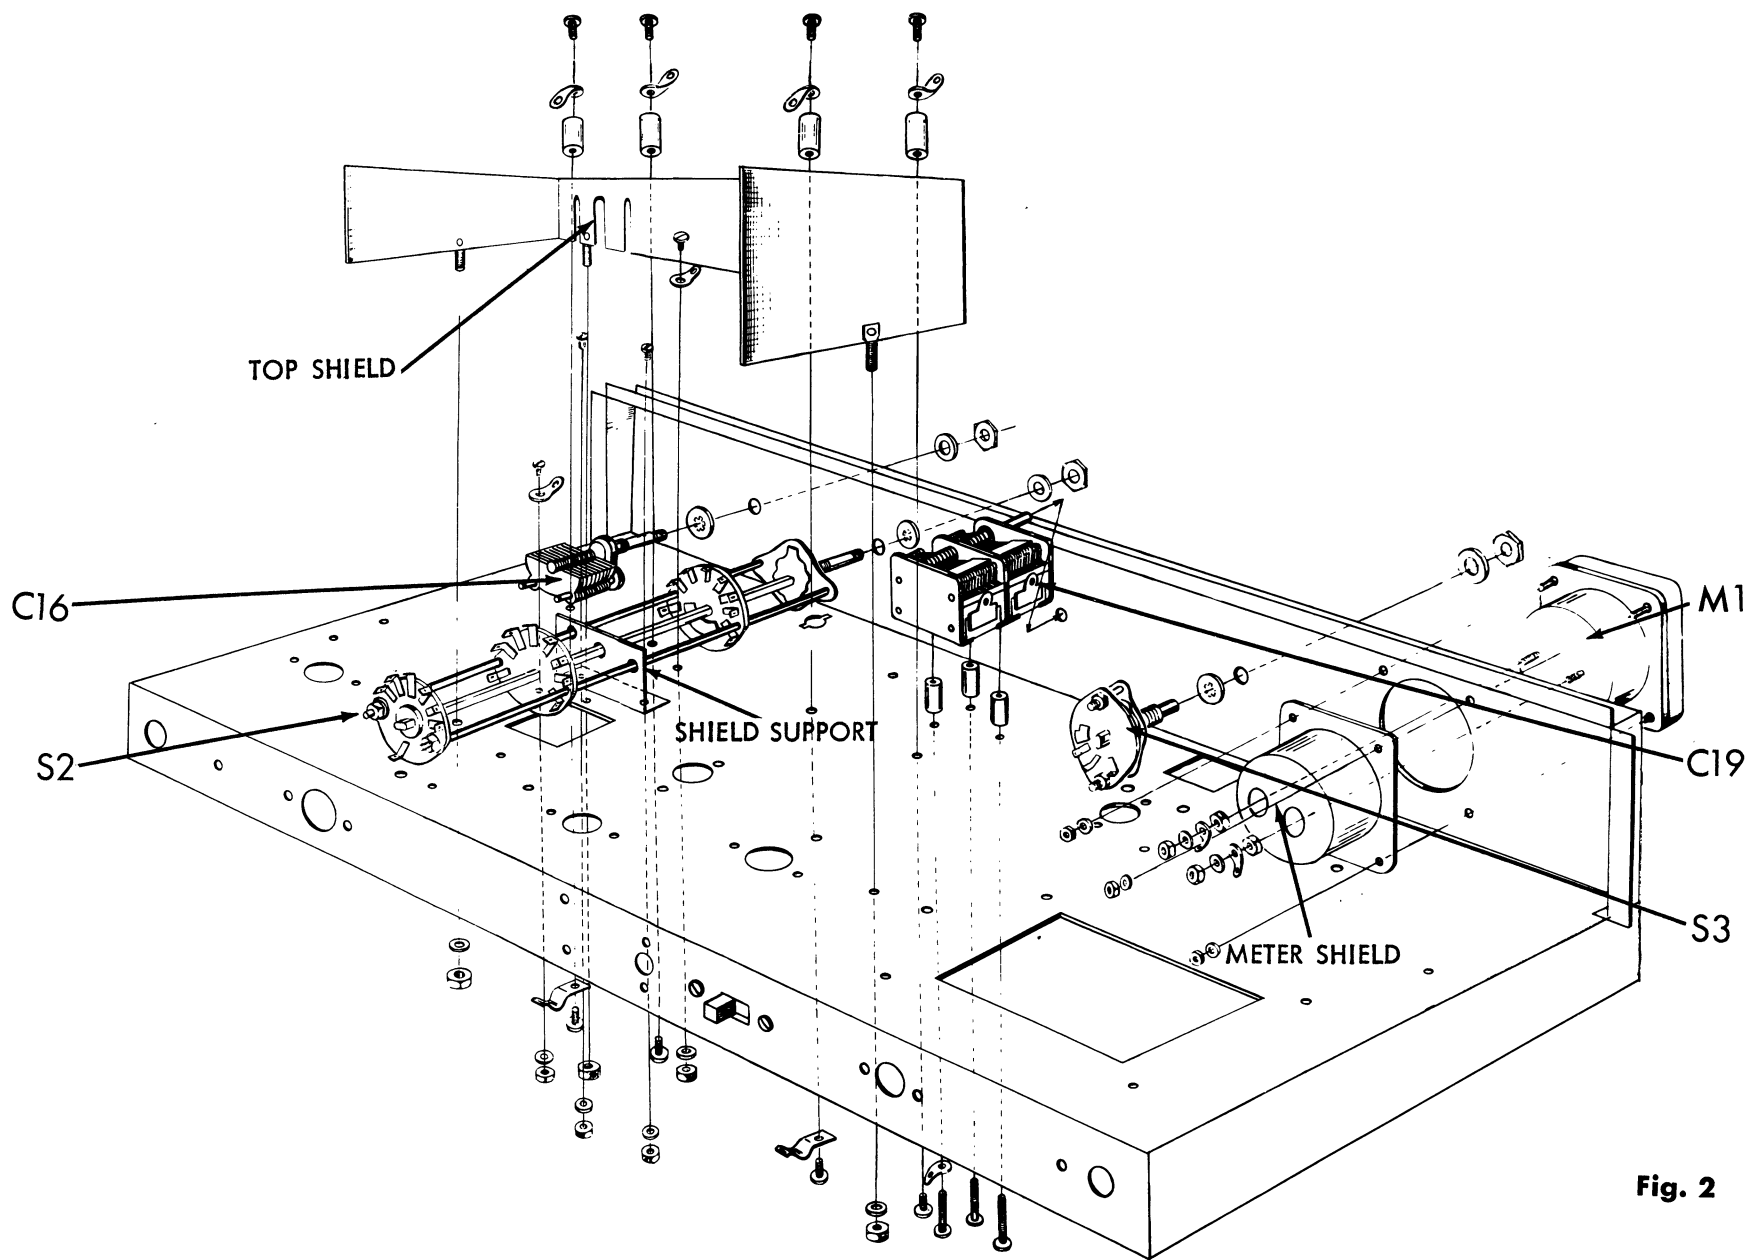
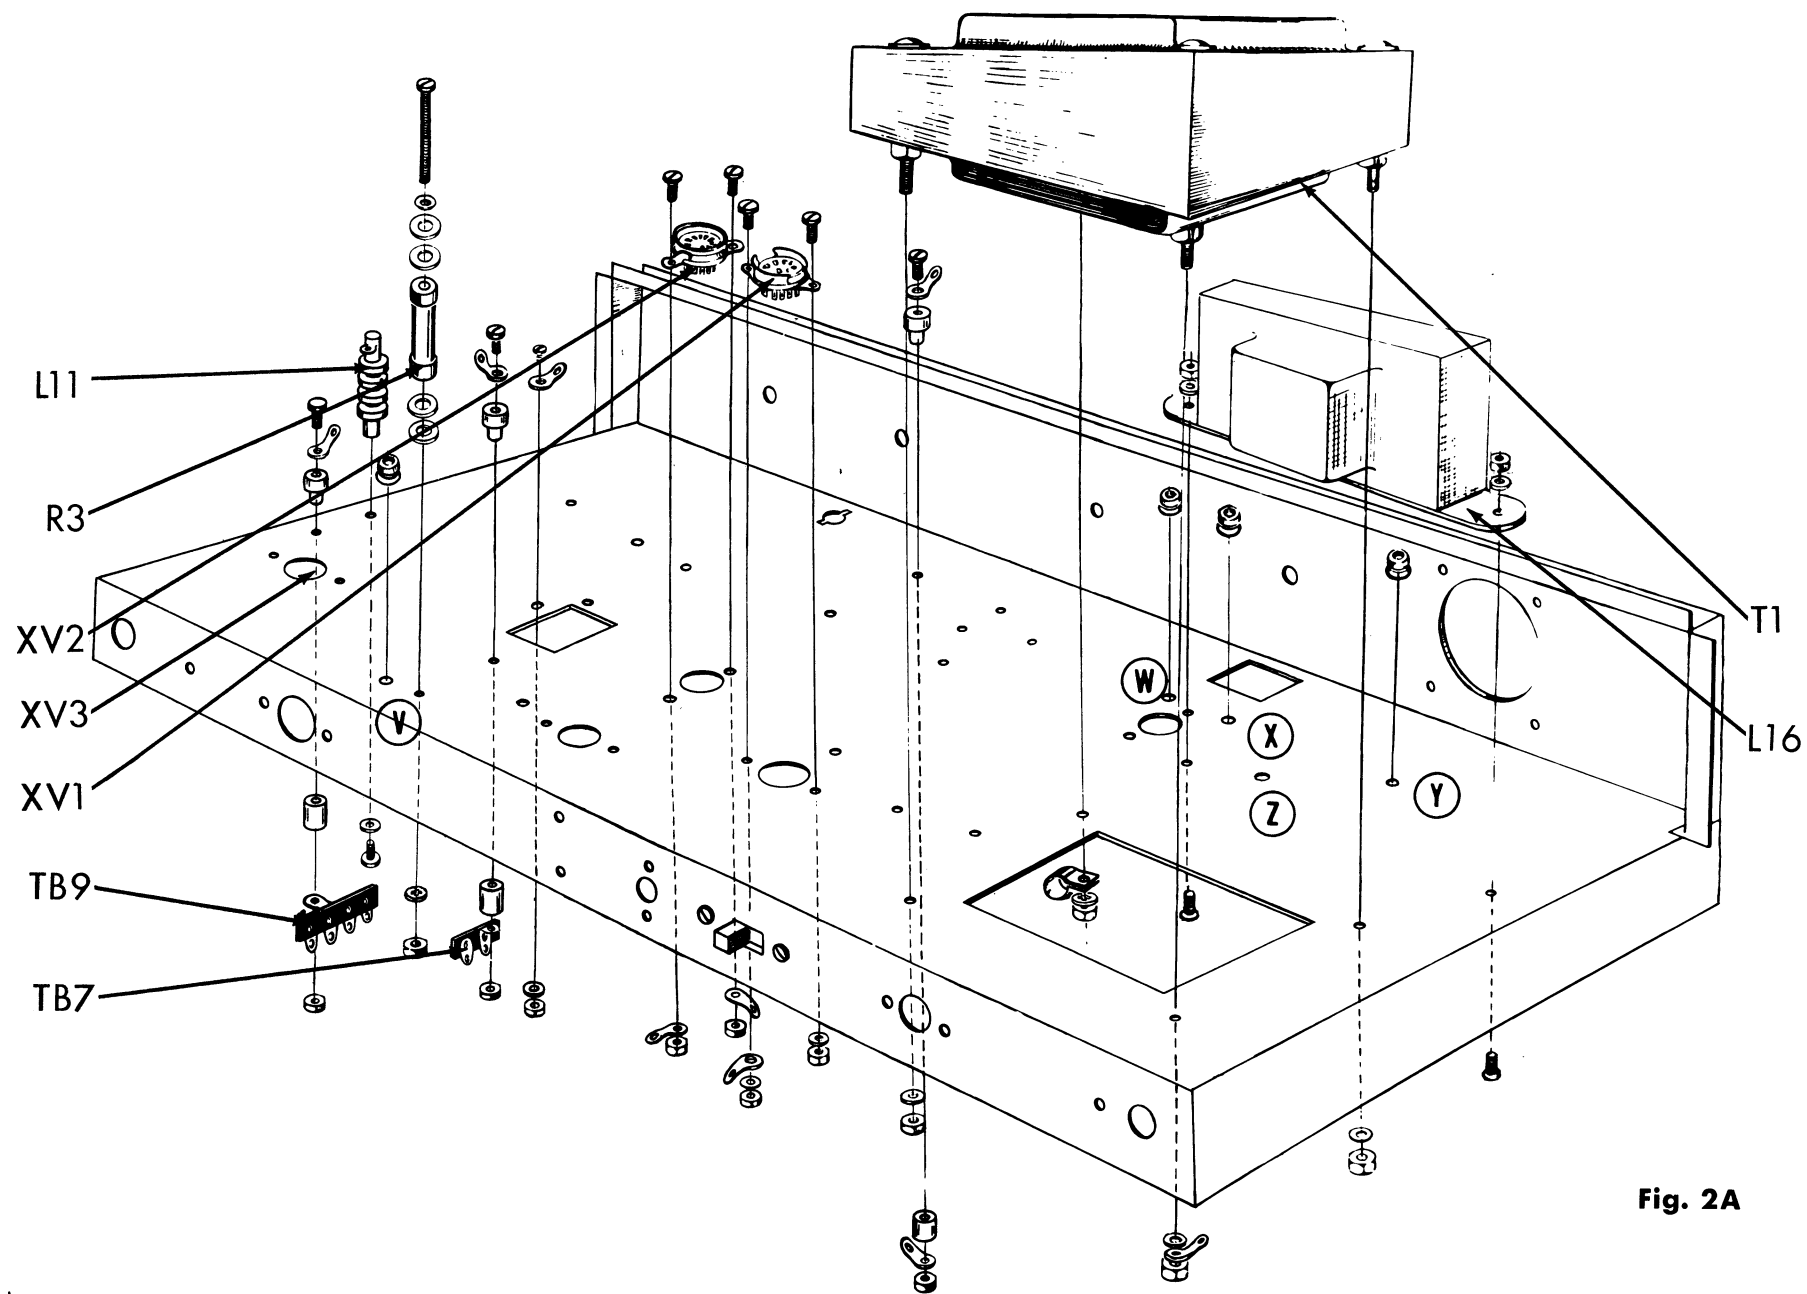
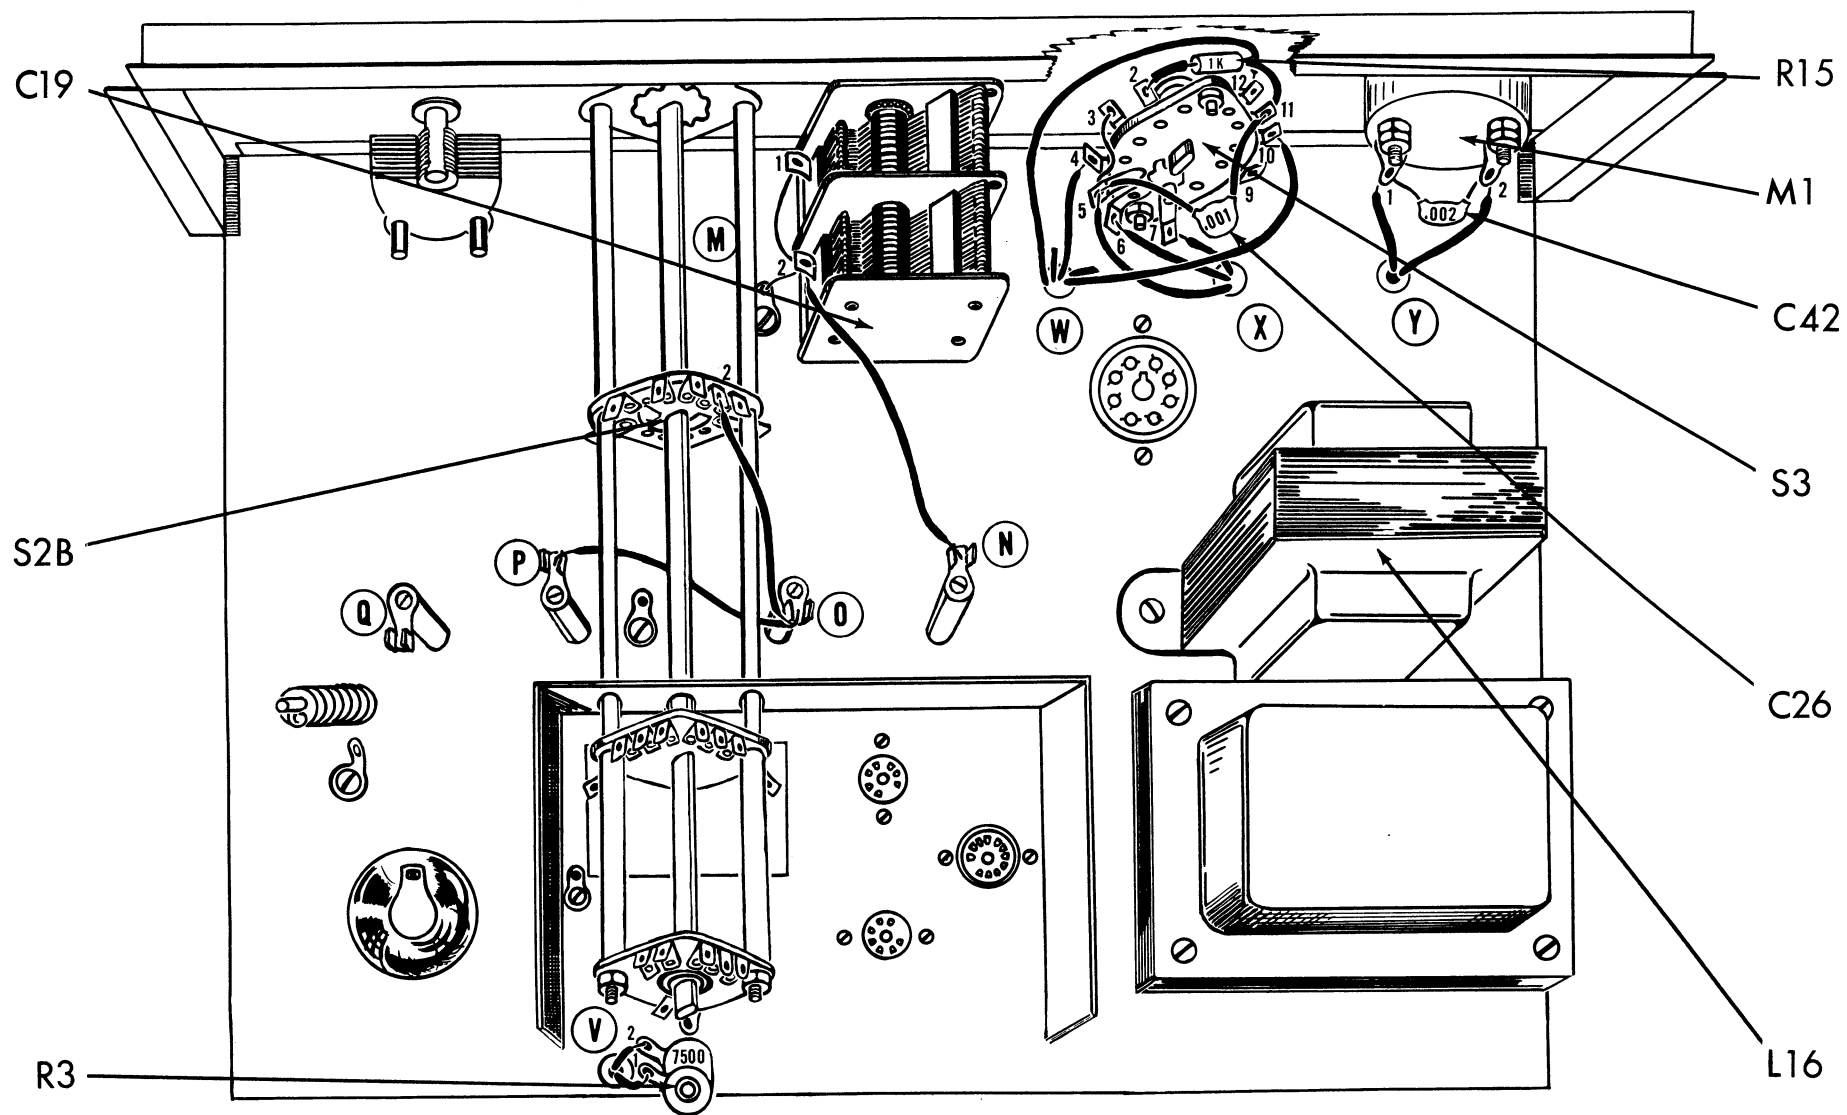

Fig. 2
Fig. 2A
Fig. 3
1. (✓) Fig. 2. Mount the meter from the front of the panel as shown. Over the rear of the meter, place the meter shield behind the panel. Place four #4 lockwashers over the four mounting screws. Secure the meter to the panel with four #4 brass hex nuts found in the carton containing the meter. On each meter terminal, use one #8 brass flat washer, one #8 ground lug, a second #8 brass flatwasher and the #8 brass hex nut. The hardware for both lugs are found in the box containing the meter.
2. (✓) Fig. 2. Turn the single wafer ceramic switch, S3, to its maximum counter clockwise position. Mount as shown, using one #3/8 lockwasher, one #3/8 flatwasher and one #3/8 hex nut.
3. (✓) Fig. 2. Mount the two gang variable capacitor, C19, as shown. First push the three #6-32 x 1 1/8 screws through the three holes from the bottom of the chassis below the capacitor. Under the head of one of the screws, below the chassis, mount a #6 ground lug. Hold all these screws in place by temporarily taping each with a separate piece of scotch electrical, masking or adhesive tape to the bottom of the chassis. Place a 13/16" metal cylindrical standoff over each of these screws from the top of the chassis. Push the capacitor shaft through the hole in the front panel of the chassis. Remove the tape from one of the screws, and with a screwdriver, screw it into the appropriate threaded hole in the capacitor. Do not tighten this screw. Repeat with the other two mounting screws. When capacitor is in place, tighten all screws.
4. (✓) Fig. 2. Mount the three wafer switch, S2, as shown. Use one 3/8 lockwasher, one 3/8 flatwasher and one 3/8 hex nut. Mount the shield support on S2 using two #6-32 x 1/4 screws, two #6 lockwashers and two #6-32 hex nuts.
5. (✓) Fig. 2. Mount the variable capacitor, C16, Stock# 29011, as shown. Use one 3/8 lockwasher, one 3/8 flatwasher and one 3/8 hex nut.
6. (✓) Fig. 2. Behind the two variable capacitors, on either side of the switch, S2, you will find a row of 5 unevenly spaced, 5/32" holes, running across the chassis. In the middle hole mount a #6 ground lug. Use one #6-32 x 1/4 screw, and one #6 hex nut.
7. (✓) Fig. 2. In the four remaining holes mentioned in step 6, mount four 1" ceramic insulators, using a #8-32 x 3/8 screw from the bottom of the chassis. DO NOT tighten too much or ceramic will crack. Place a metal cable clamp under each one of two of the screws as shown below the chassis. On the top of each of these insulators, mount a #8 ground lug with a #8-32 x 3/8 screw. DO NOT tighten too much or ceramic will crack. (Note direction of lugs in Fig. 3.)
NOTE: Top shield shown in fig. 2 will be mounted later.
1. (✓) Fig. 2A. On choke, L16, cut one lead to 4" and the second lead to 6". Push both leads through the grommet in hole "Z". Mount the choke using two #8-32 x 3/8 screws, two #8 lockwashers and two #8-32 hex nuts. It may be necessary to remove C28 temporarily (under the chassis) to tighten the nut.
2. (✓) Fig. 2A. On the power transformer, T1, cut the white lead to 1 1/2" and the adjacent green lead to 2 1/2". Cut the second green lead to 3 1/2" and the black lead closest to the white to 7". Cut the remaining black lead to 3". Cut both yellow leads to 7 1/2" and both red leads to 5 1/2". Mount the transformer with the red and yellow leads nearest C27, below the chassis. Use four #8-32 lockwashers and four #8-32 hex nuts. Under one of the lockwashers, mount a #8 ground lug. Under a second lockwasher, mount a plastic cable clamp as shown. Do not tighten the nut holding this clamp as yet.
3. (✓) Fig. 2A. The small ceramic insulators consists of two sections. There is first a larger section with the outside diameter of 1/2". The second section is smaller, consisting of a larger diameter section of 1/2" and a smaller diameter section of 5/16". This smaller diameter section fits through the hole in the chassis.
4. (✓) Fig. 2A. Similar to the above, behind the rectangular hole below S2, push the thinner part of a small ceramic insulator from the top through the hole in the chassis. Place the larger section over the thinner part of the smaller section, from the bottom of the chassis. Secure this insulation with a #6-32 x 3/4 screw and a #6 hex nut. Under the screw head, mount a #6 ground lug. Under the hex nut, mount a one post right with ground terminal strip, TB7.
5. (✓) Fig. 2A. Similar to the above, next to C19 and behind X11, push the thinner part of a small ceramic insulator from the top through the hole in the chassis. Place the larger section over the thinner part of the smaller section, from the bottom of the chassis. Secure this insulator with a #6-32 x 3/4 screw and a #6-32 hex nut. Under the screw head mount one #6 ground lug. Under the hex nut mount a second #6 ground lug.
6. (✓) Fig. 2A. Mount the 7500 Ω , 20 watt wire-wound resistor, R3, using a #6-32 x 2 1/2 screw thru the top and secure to the chassis with a #6 lockwasher and a #6-32 hex nut. Between the head of the screw and the top of the resistor there are three washers; a #6 flat metal washer, a #6 fibre shoulder washer and a #12 fibre shoulder washer in that order. Please note that the shoulder on the #12 washer fits into the resistor and the shoulder on the #6 washer fits into the hole in the #12 washer. Between the resistor and the chassis, there are two washers, a #12 fibre shoulder washer and a #6 fibre shoulder washer in that order. (Note direction of mounting in Fig. 3.)
7. (✓) Fig. 2A. Push a 1/4" rubber grommet into hole "V" next to the resistor, R3.
8. (✓) Fig. 2A. Mount the seven pin miniature tube socket, XV2, with shield support as shown. Use two #4-40 x 1/4 screws, two #4 ground lugs and two #4-40 x 1/4 hex nuts. Note direction of mounting in Fig. 4.
9. (✓) Fig. 2A. Mount the nine pin miniature tube socket with shield support XV1, as shown. Use two #4-40 x 1/4 screws, one #4 lockwasher, one #4 ground lug and two #4-40 hex nuts.
10. (✓) Fig. 2A. Mount the four pi choke, L11, as shown. Use a #6-32 x 1/4 screw, and a #6 lockwasher. Do not tighten too much or ceramic will crack.
11. (✓) Fig. 2A. Push a 1/4" rubber grommet in holes "W", "X" and "Y".
12. (✓) Fig. 2A. Mount a #6 ground lug in the small hole adjacent to the rectangular hole below S2. Use one #6-32 x 1/4 screw, one #6 lockwasher and one #6 hex nut.
1. (✓) Fig. 3. Connect a 5" piece of red wire to meter lug M1-1 (C) and a 5" piece of black wire to M1-2 (C). Push both leads through hole "Y" in the chassis.
2. (✓) Fig. 3. Cut both leads on a .002 mfd - 1000 V (2K or 2000 mmf) disc capacitor, C42, to 3/4". Connect from M1-1 (S2) to M1-2 (S2).
3. (✓) Fig. 3. Connect one end of a 18" piece of violet wire to S3A-12 (S1). Push the other end of the wire through hole "W" in the chassis.
4. (✓) Fig. 3. Connect one end of an 11" piece of green wire to S3A-4 (S1). Push the other end of the wire through hole "W" in the chassis.
5. (✓) Fig. 3. Connect one end of a 9" piece of blue wire to S3A-10 (S1). Push the other end of the wire through hole "W" in the chassis.
6. (✓) Fig. 3. Connect one end of a 4" piece of yellow wire to S3B-5 (C). Push the other end of the wire through hole "X" in the chassis.
7. (✓) Fig. 3. Connect one end of a 17" piece of orange wire to S3B-7 (S1). Push the other end of the wire through hole "X" in the chassis.
8. (✓) Fig. 3. Connect one end of a 20" piece of brown wire to S3B-6 (S1). Push the other end of the wire through hole "X" in the chassis.
9. (✓) Fig. 3. Connect a 3 1/2" red lead to the top of the 7500 ohm, 20 watt resistor, R3-1 (S1) and a 3 1/2" orange lead to the bottom of the resistor, R3-2 (S1). Push both leads through hole "V" in the chassis.
10. (✓) Fig. 3. Cut both leads on a 1K Ω (brown, black, red) resistor, R15, to 3/4". Cover both leads with a 1/2" piece of spaghetti. Connect from S3A-11 (C) to S3A-2 (C).